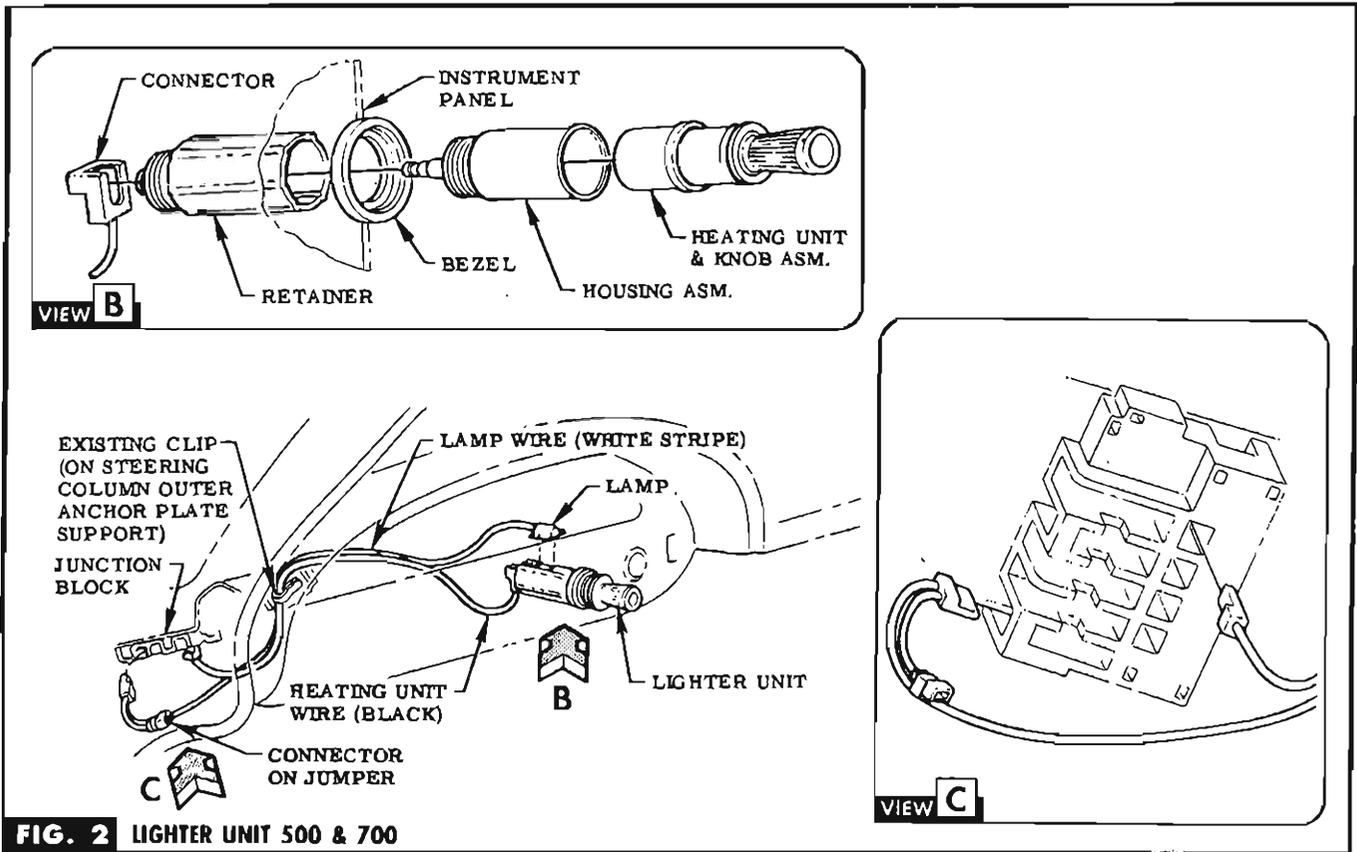

FIG. 2 LIGHTER UNIT 500 & 700
STEP 4c PRESS CLIP & BLADE INTO RECEPTACLE MARKED "GL. BOX LP.", INSERT FUSE & CONNECT WIRE. SEE VIEW D, FIG. 2. **NOTE** If receptacle is occupied, remove existing wire & connect to jumper wire. Discard clip & blade asm. & fuse.
WIRES WITH MAIN WIRING HARNESS THRU EXISTING CLIP & PLUG HEATING UNIT CONNECTOR INTO OPENING ON JUNCTION BLOCK MARKED "CIG. - LTR." & PLUG LAMP WIRE CONNECTOR INTO OPENING IN JUNCTION BLOCK MARKED INSTR. PANEL LAMPS. SEE FIG. 2 & VIEWS B & C.